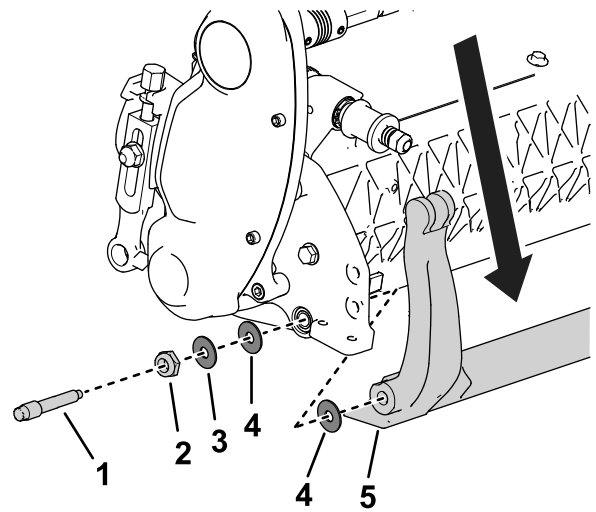

Figure 20
3. On each side of the machine, loosen the locknut shown in Figure 20.
4. Remove each bedbar bolt, allowing the bedbar to be pulled downward and removed from the cutting unit (Figure 20).
Note: Account for the 2 nylon washers and 1 steel washer on each end of the bedbar (Figure 20).
- Position a nylon washer on each side of the side-plate boss. Place a steel washer outside each of the nylon washers (Figure 20).